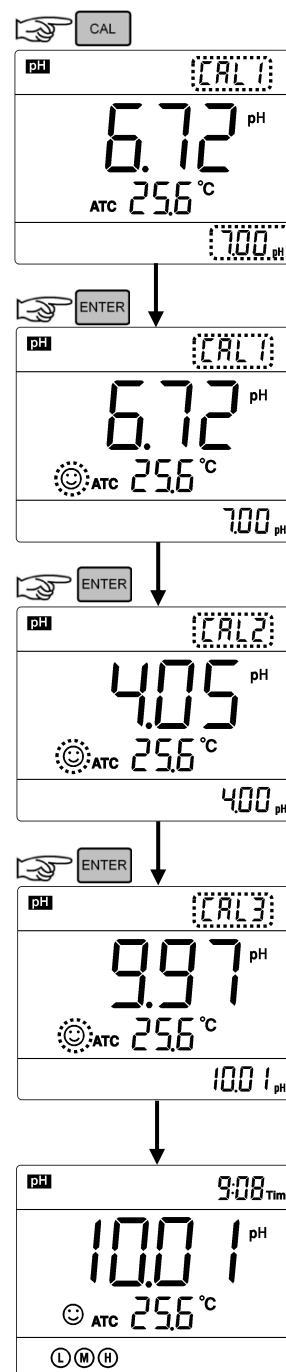

Figure-9
5.4.5 Take out pH electrode, rinse it in distilled water, dry it, and dip it into pH 10.01 buffer solution. Stir the solution gently and let it stand still in the buffer solution until a stable reading is reached. The meter's display will show recognition process of calibration buffer solution at the bottom right of LCD. When the meter recognizes 10.01 pH, 😊 displays and stays on LCD. Press **ENTER** key to calibrate the meter. End icon and electrode slope of alkalinity range display after calibration is done. The meter returns to the measurement mode, displays stable measuring value and calibration guide icons (L)(M)(H). Please see Figure-9 for the above calibration process.